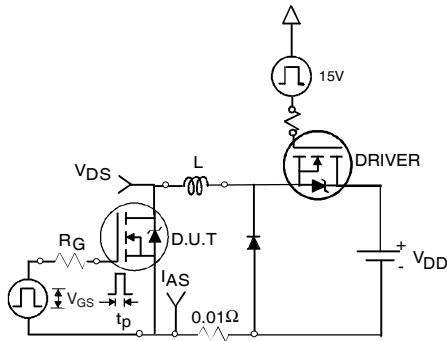

Fig 21a. Unclamped Inductive Test Circuit
- Equation below based on circuit and waveforms shown in Figures 21a, 21b.